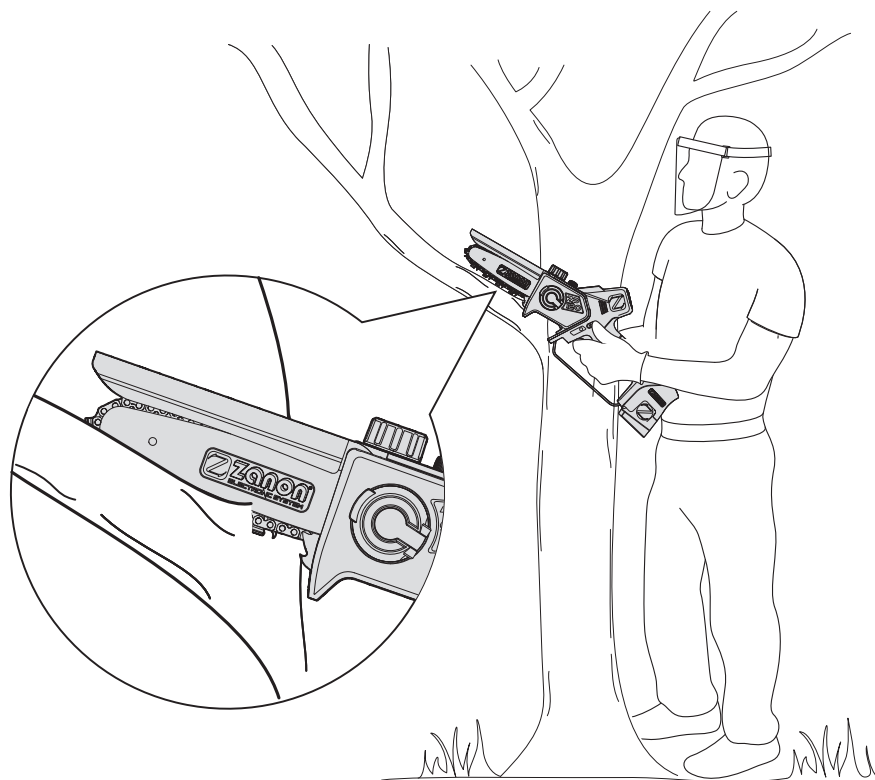

Fig. 5
- **Do not saw with the tip of the blade.** For cutting, preferably use the lower part of the blade (**fig. 5**); this ensures maximum control of the tool.